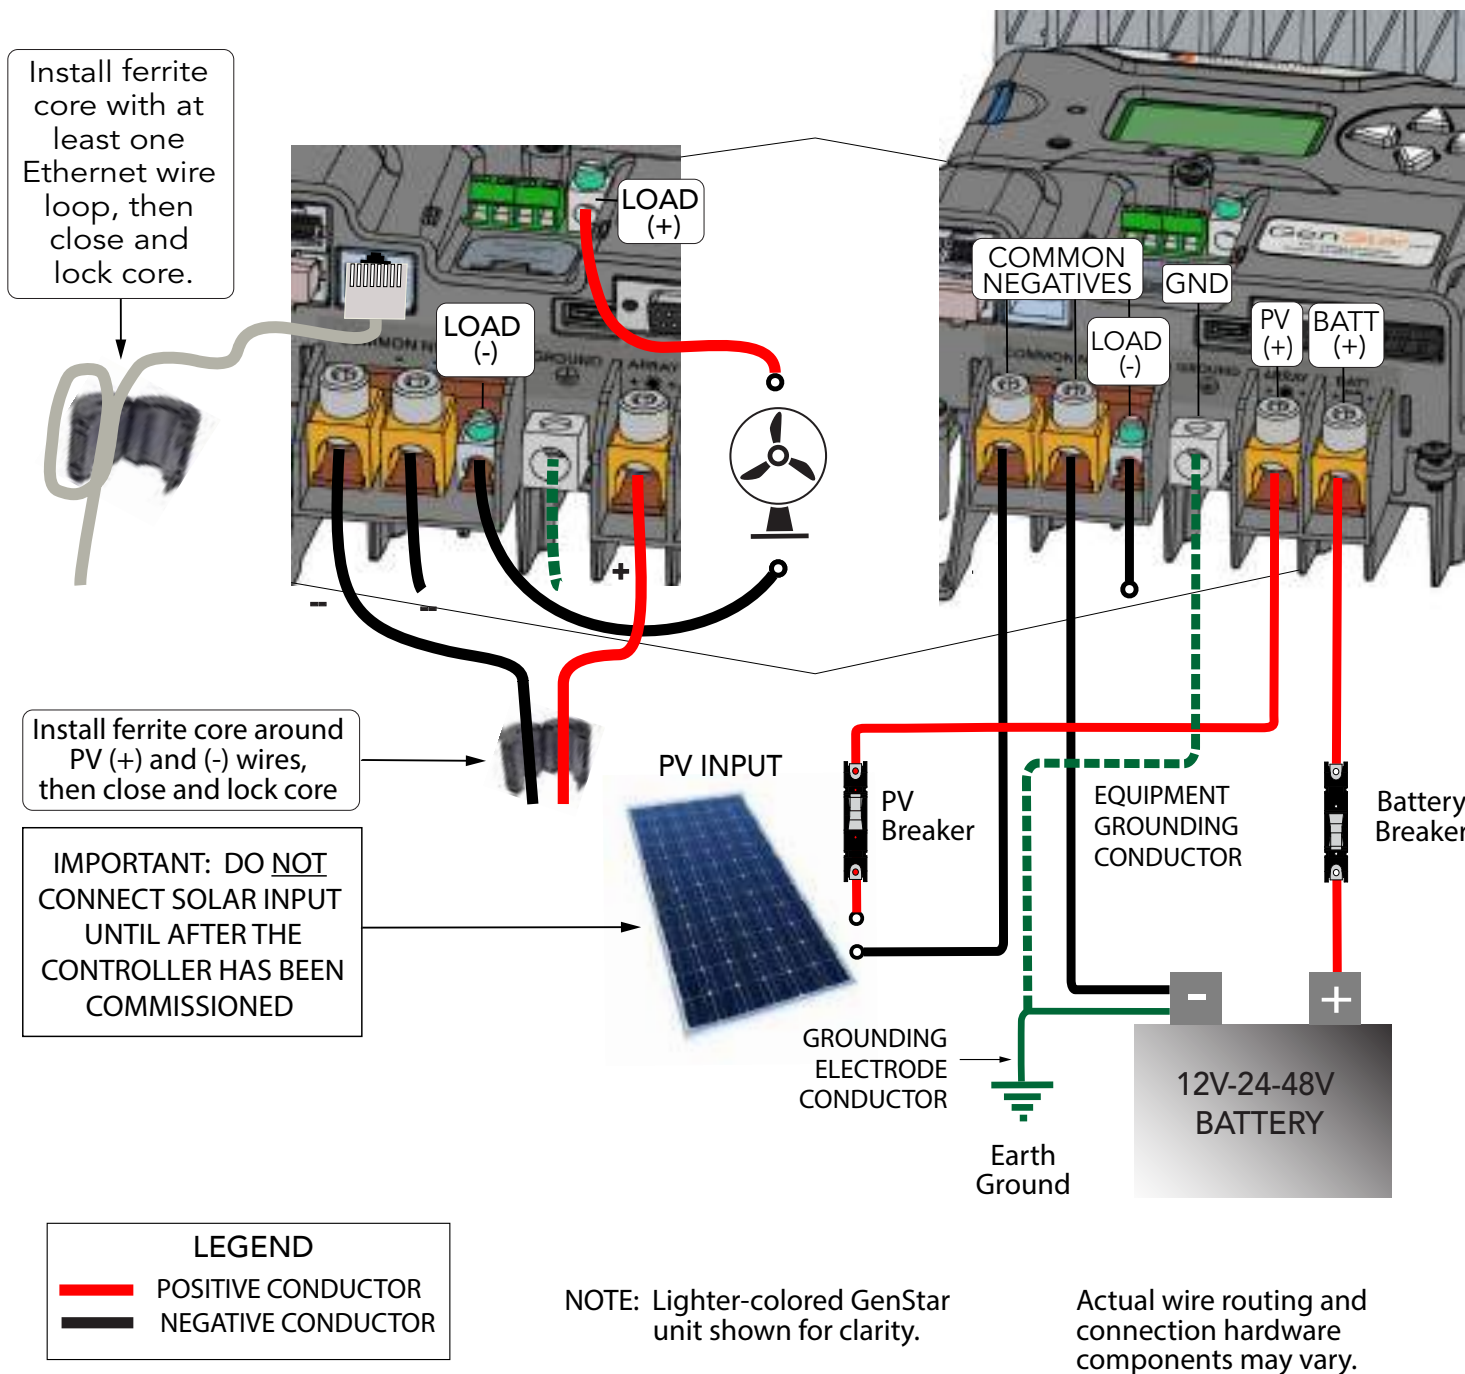

Figure 3-4. GenStar MPPT Power Wiring
Refer to Figure 3-4 above.
For safety and effective lightning protection, it is recommended and may be required by code, that the negative conductor of the charging system be properly grounded (refer to Figure 3-4). Do not connect the negative system wire to the case grounding terminal. The GenStar MPPT does not have internal ground fault protection; but where the NEC requires the use of a ground fault protection device (GFPD), **the system electrical negative must be bonded through a GFPD to earth ground at only one point.**
1. Wire the PV array according to NEC Section 690 or applicable local regulations or code. Use caution, since the solar array will produce current whenever it is in sunlight (refer to Figure 3-4 above).
4. Fit and connect a negative wire between the GenStar PV (-) input terminal and the PV (-) busbar or combiner terminal. **DO NOT CONNECT THE ARRAY STRING (-) WIRE(S) TO THE COMBINER BOX AT THIS TIME.** This can be achieved by not connecting the PV (-) MC-4 connectors or the PV (-) wire(s) to the transition box, combiner box or the PV (-) disconnect.
refer to Figure 3-4 in section 3.4.2.